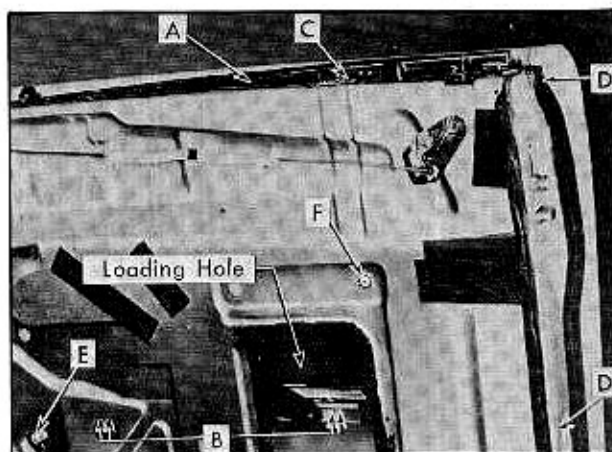

Fig. 3-38 Door Window Assembly (Coupe)
1. To adjust upward limit of glass travel, remove door belt finishing molding, loosen nut and turn stop "C", Fig. 3-38 up or down as required; then tighten nut.
Loosen glass run channel attaching screws "D" at the door lock pillar, Fig. 3-38.
2. Remove the inner draft strip assembly "A", Fig. 3-38, with attached window stop.
5. Remove the four screws "B", Fig. 3-38, securing window assembly to regulator cam.
2. Remove the glass run channel attaching screws "D" at door lock pillar. Fig. 3-38.
(38) Rear Door Window Glass Adjustment, Removal and Installation